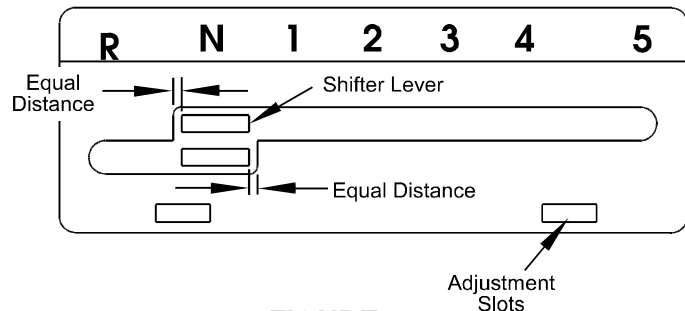

FIGURE 7
- c) Shift to neutral position. Lever should not contact the left edge of the upper slot. Push lever down. Lever should not contact the right edge of the bottom slot (See Figure 7). Shifter plate can be adjusted side to side to adjust position of lever relative to the slot in plate. Loosen the two bolts securing the shifter plate to the shifter lever legs. Adjust shifter plate and retighten bolts.